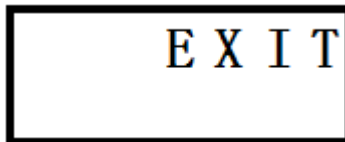

Figure9
2.1 In the state when the menu is not started, enter "Confirm" , the menu will be started, as shown in Figure 9:
2.2 In the state shown in Figure 9, enter "Confirm" key to exit the menu, menu state return to initial state.
3.1 Enter "Left" display the menu items from lower to upper circular when the screen displays as shown in Figure 9, enter "Left" once, as shown in Figure 10. Enter "Left" once again, as shown in Figure 11.
3.2 Enter "Right" display the menu items from lower to upper circular when the screen displays as shown in Figure 9, enter "Right" once, as shown in Figure 12. Enter "Right" once again, as shown in Figure 13.
5.1.1 Enter "Confirm" once to start menu, as shown in Figure 9;
5.1.7 Enter "Left" ten times or "Right" twice, as shown in Figure9;
5.2.1 Enter "Confirm" once to start menu, as shown in Figure 9;
5.2.11 Enter "Left" eight times or "Right" four times (menu browse), as shown in Figure 9;
1.1 Enter "Confirm" once to start menu when menu doesn't start, then the screen displays as shown in Figure9;
1.2 In the State as shown in Figure 9, enter "Confirm" once to exit the menu.